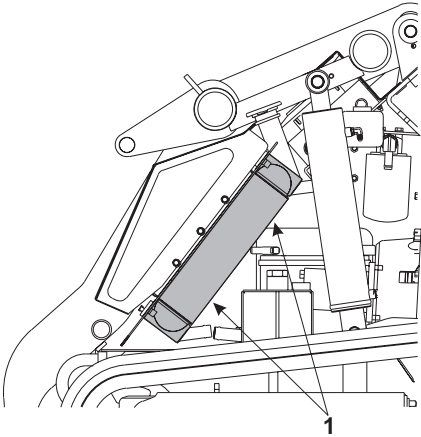

Figure 4-5 Radiator Air Flow Inspection
5. Inspect the radiator to make sure that the air flow is not blocked. The fan located on top of the unit is a suction fan, which draws air from inside the machine. Check the engine side of the radiator (Item 1, Figure 4-5) to make sure that debris has not been sucked against the radiator blocking air flow.
NOTE: Some items in Figure 4-5 have been removed for clarity.